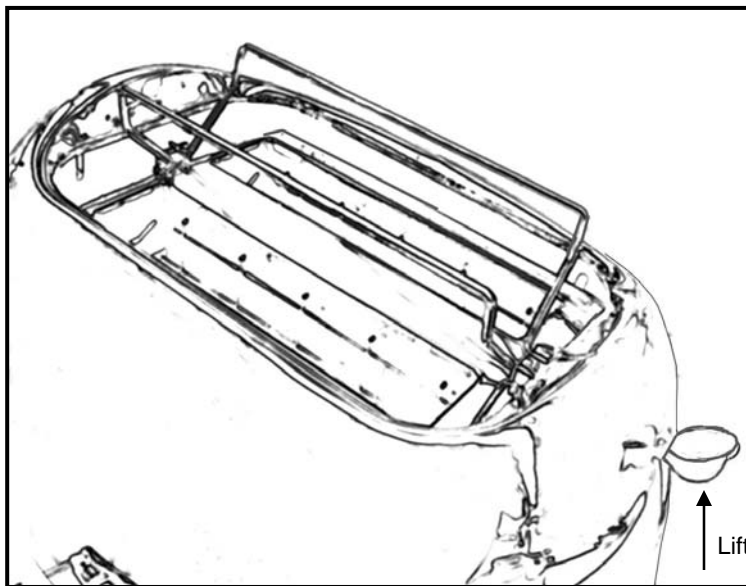

Fig. 1
**Important:** Do not place food containers such as plates or foil pans on top of the Bun Warmer Rack (12).
1. Lift Bun Warmer Lever (13). (Fig. 1)
2. Center the food on the Bun Warmer Rack (12).
3. Set the Browning Control Knob (2) to position 4-5 for crisping or lower for warming.
4. Press down the Bread Carriage Lever (3). The Power On Light (9) will come on.
5. When cycle is completed, carefully remove the crisp/warm food from the Bun Warmer Rack (12).
6. Lower the Bun Warmer Rack (12) by pressing the Bun Warmer Lever (13) down when finished using and during regular toasting. The Bun Warmer Rack (13) should be at the rest position when toasting bread in the Bread Slot(s) (1). Never put bread in the Bread Slot(s) (1) while heating buns on the Bun Warmer Rack (12).